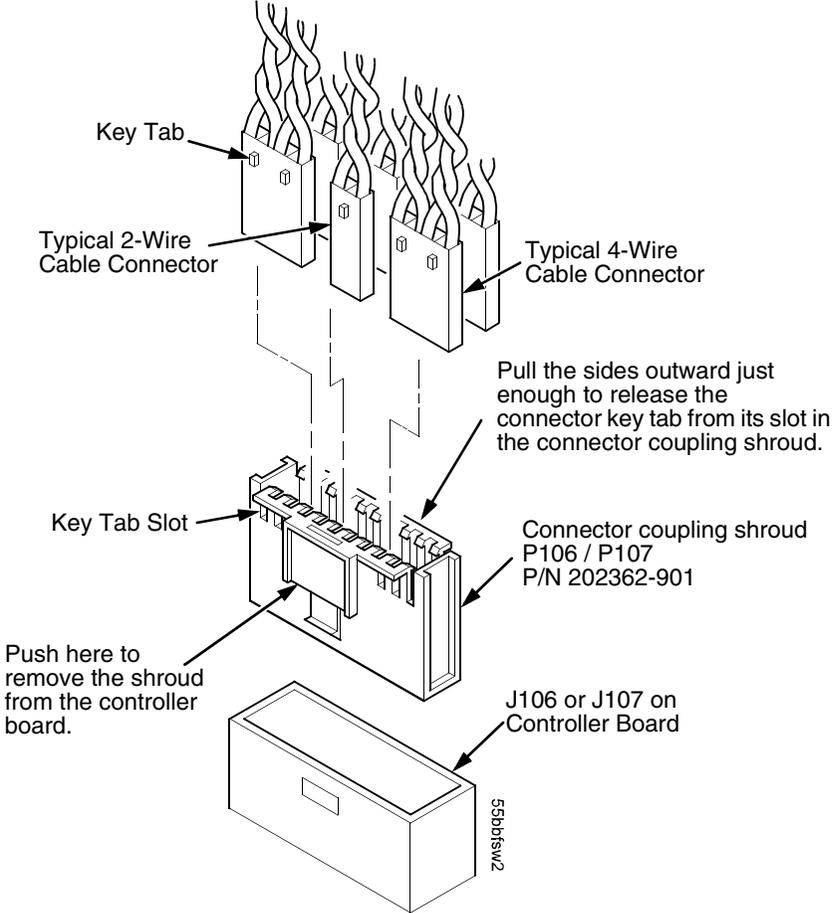

Figure 25. Connector Coupling Shroud, Disassembly/Assembly
4. Pull the side of the connector coupling shroud outward and gently pull the cable connector upward. (See Figure 25.) Notice that two-wire connectors are grouped across from two-wire connectors in a connector coupling shroud. Four-wire connectors are grouped across from four-wire connectors in a connector coupling shroud.
1. Position the cable connector in the connector coupling shroud. Two-wire connectors are always grouped across from two-wire connectors in a connector coupling shroud. Four-wire connectors are always grouped across from four-wire connectors in a connector coupling shroud. (See Figure 25.)